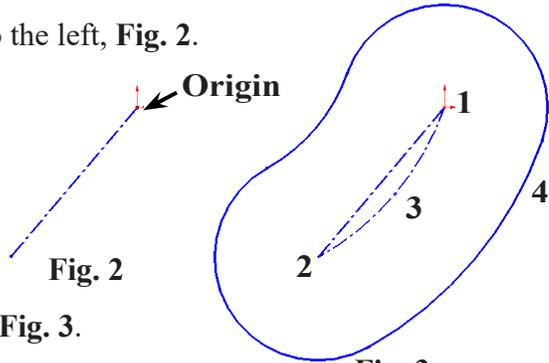

Fig. 3
Step 5. Click **3 Point Arc Slot**  (S) in the **Straight Slot flyout**  on the Sketch toolbar.
Step 6. Sketch a 3 point arc slot starting at the Origin  and across to the endpoint of the centerline, **Fig. 3**.